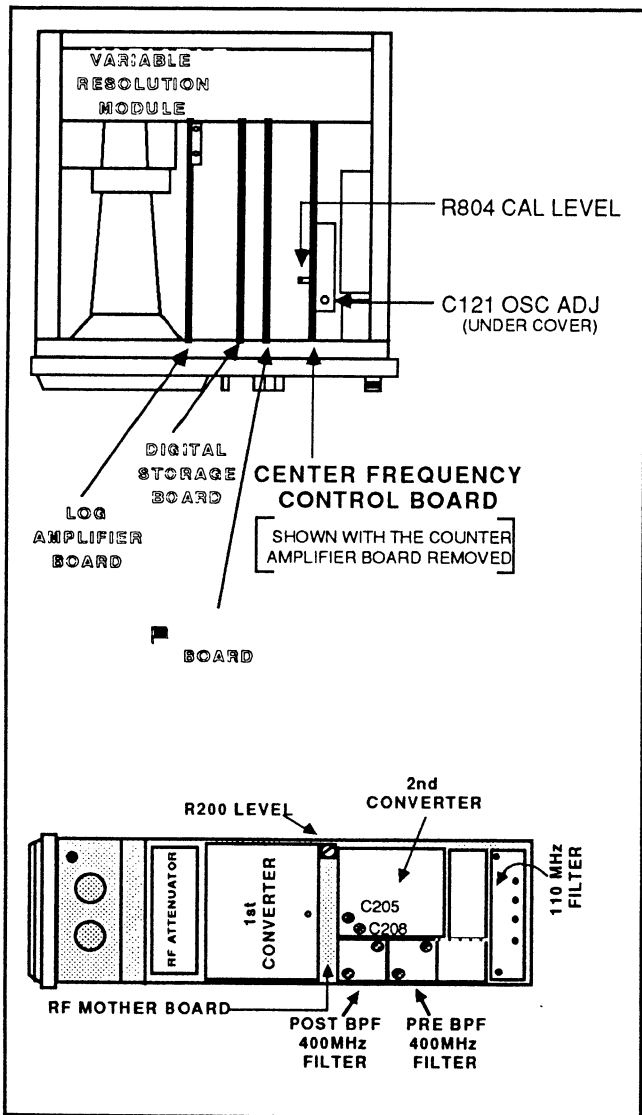

Figure 4-4. Calibrator and IF Gain adjustment locations.
d. Enable the calibrator signal by pressing INPUT MENU/#9 [CAL SIG @ 100MHz -30dBm (ON)].
e. Adjust R804 (Cal Level) on the Center Frequency Control board to match the calibrator level to the level of the saved -30 dBm signal. See Figure 4-4.
g. Adjust R200 (Level) on the RF Mother board to set the calibrator signal at full screen. See Figure 4-4.